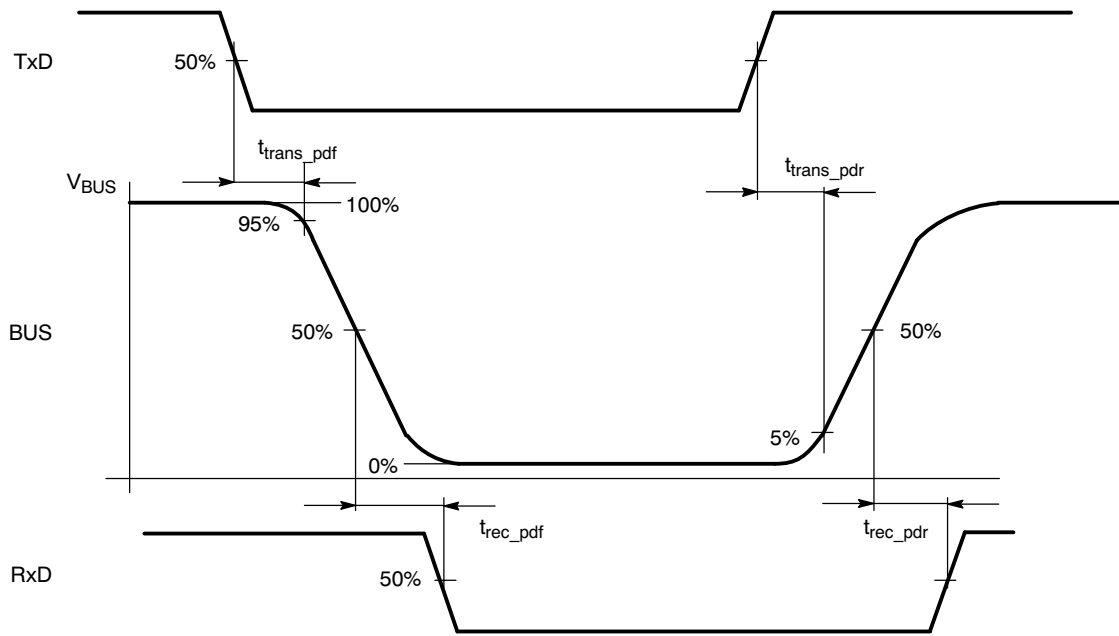

Figure 2. Input/Output Timing
9. See Figure 2 - Input/Output Timing.